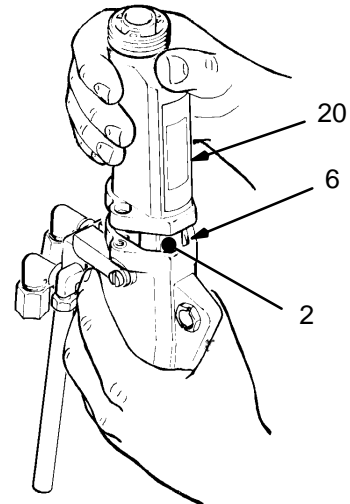

Fig 13
6. Hold the gun body with one hand and pull straight up to remove the gun barrel (20). See Fig 13.
1. Be sure the gasket (6) is in place. Replace if damaged. Place the barrel over the power cartridge (2) and onto the gun body. See Fig 13.